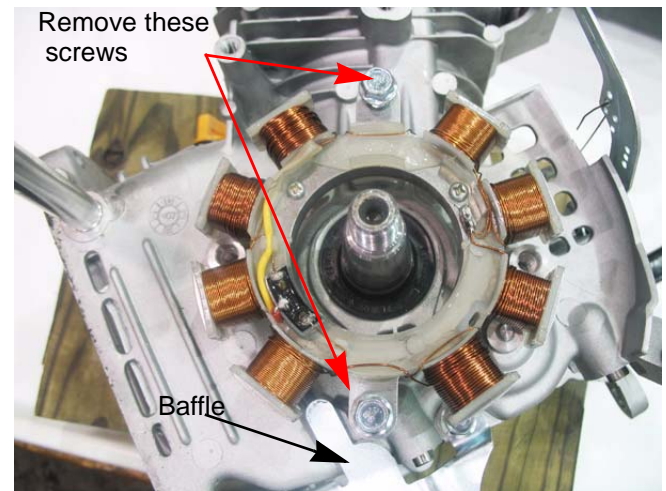

Figure 6.16
4. Remove the two screws that secure the stator with a 10mm wrench and lift the stator off of the engine. See Figure 6.16.